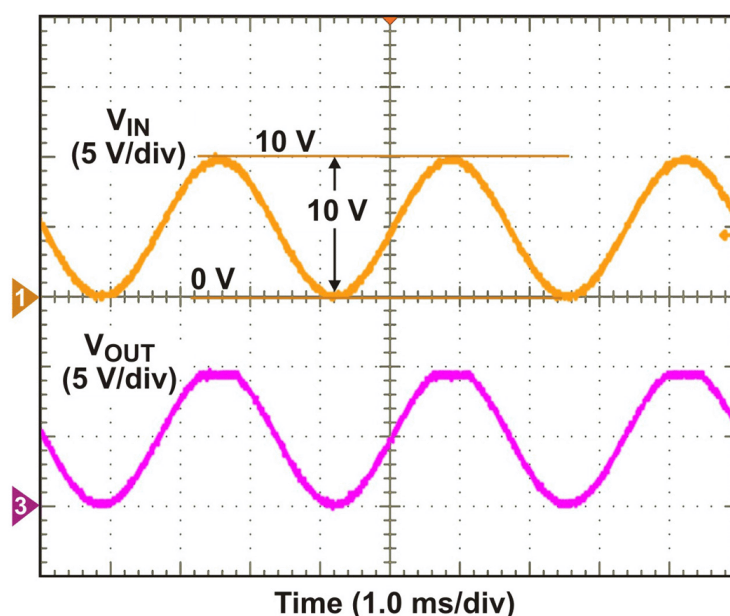

Figure 4: V_{OUT} of TLC2272 shows clipping when V_{IN} (Ch1) exceeds 9.2V.
To test the circuit, we apply a 300 Hz sine wave with DC offset of $V_{CC}/2 = 5\text{V}$ to the input. The AC amplitude is adjusted until a change is observed at V_{OUT} . As shown in **Figure 4**, when 10 V_{p-p} input is applied the V_{OUT} shows a clipped signal near the positive rail, but not near the negative rail. This undesirable behavior near the positive rail is what we should expect, if the input exceeds $V_{CC} - 0.8\text{V}$, or in this case 9.2V . For V_{IN} levels below 9.2V and down to 0V , V_{OUT} shows a proper waveform, as expected.
- Figure 4 caption: Replaced **TL971** with **TLC2272**